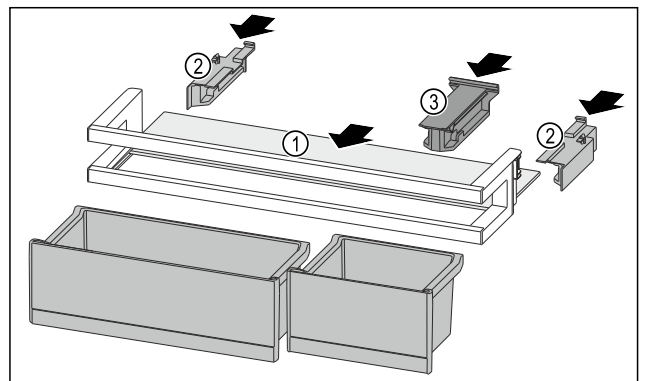

Fig. 120
- ▶ Push the shelf Fig. 120 (1) into the side recesses.
- ▶ Insert the side parts Fig. 120 (2).
- ▶ Insert the holding part Fig. 120 (3).